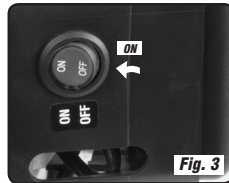

Fig. 3
2. Move the On/Off Ignition Switch to the "ON" position (see Fig. 3).